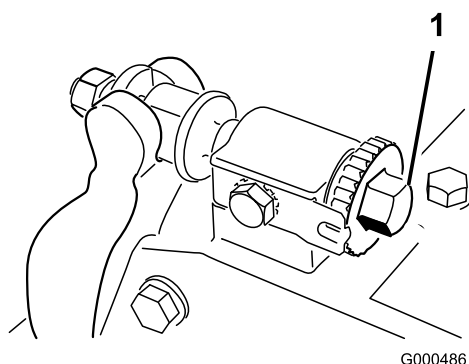
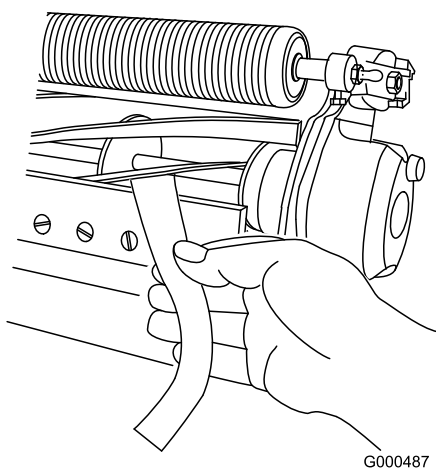

Figure 52
Figure 53
2. Make sure reel contact is removed by turning bedbar adjusting screws counterclockwise (Figure 52).
4. At one end of reel, insert a long strip of newspaper between reel and bedknife (Figure 53). While slowly rotating reel forward, turn bedbar adjusting screw clockwise (on same end of reel) (Figure 52), one click at a time, until paper is pinched lightly, when inserted from the front, parallel to the bedknife. A slight drag will be noted as the paper is pulled.
angle to the bedknife (Figure 53). It should be possible to cut paper with minimum contact between the bedknife and the reel blades. Should excessive reel drag be evident it will be either necessary to backlap or regrind the cutting unit to achieve the sharp edges needed for precision cutting (see Toro reel sharpening manual).